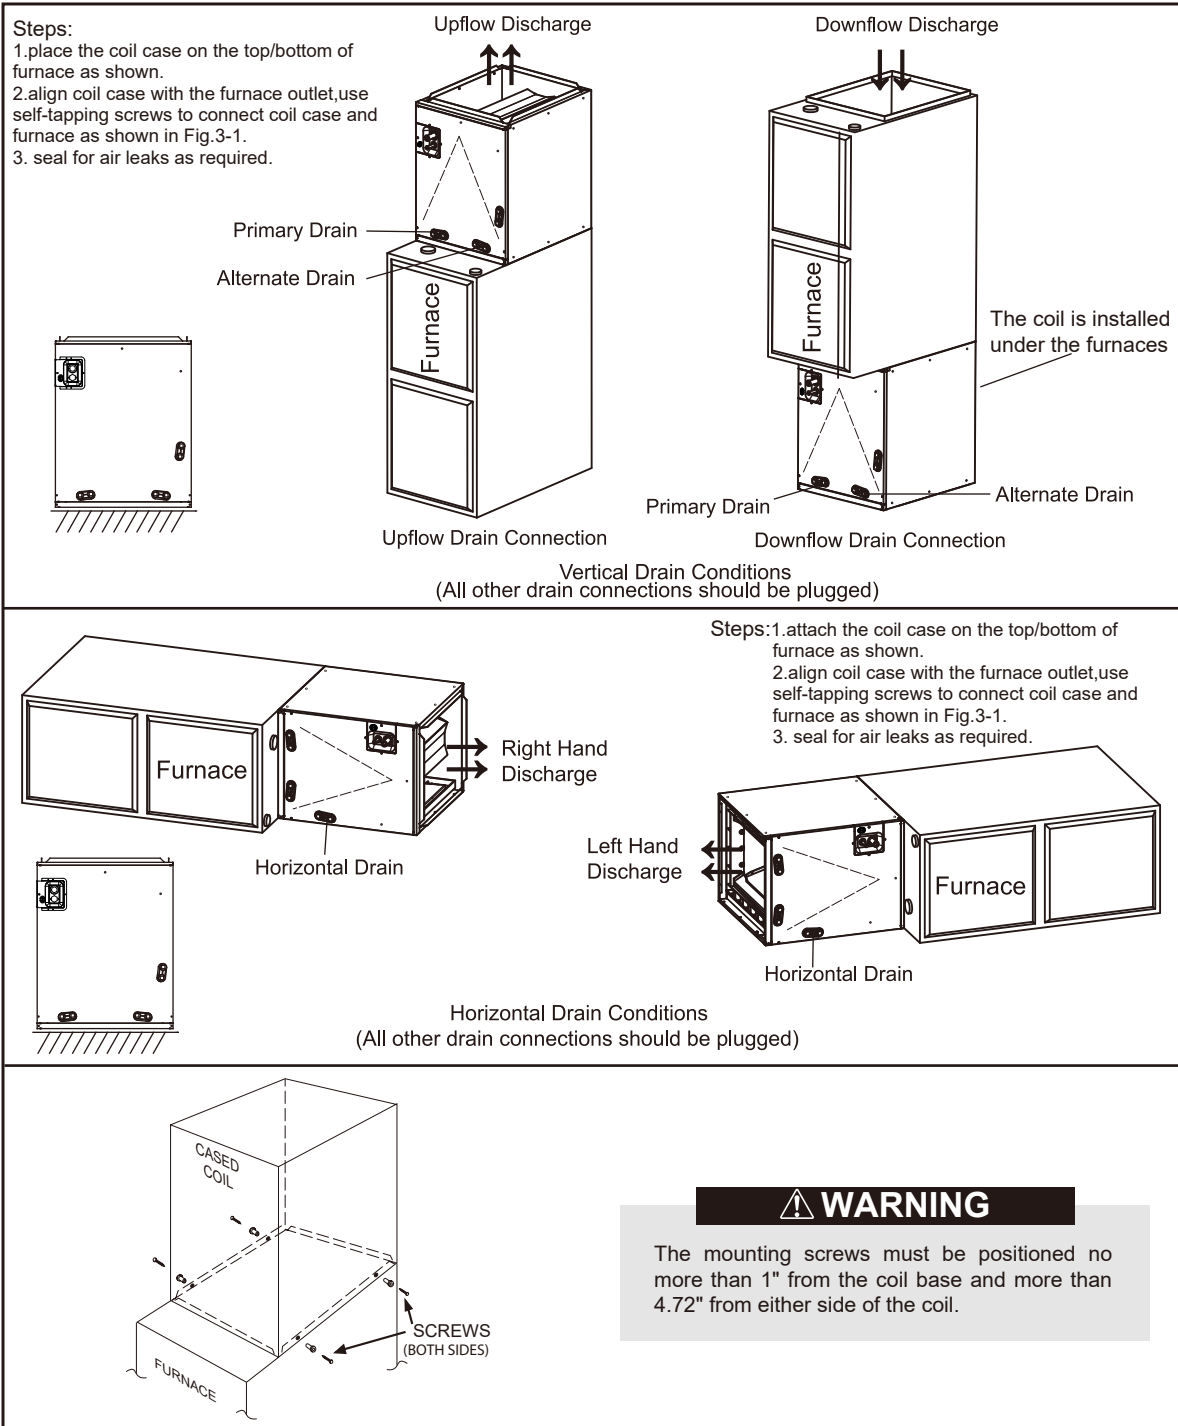

Fig. 3-1 INSTALLATION OF CASED COIL
1. See Fig. 3-1 for coil installation and drain connection.
C. Ensure that the coil is leveled well and seal the gap between coil and furnace. See Fig. 3-1. In case that coil and furnace sizes are not matched, use proper size of sheet metal or other material to fill the gap and seal the gap to prevent air leak.